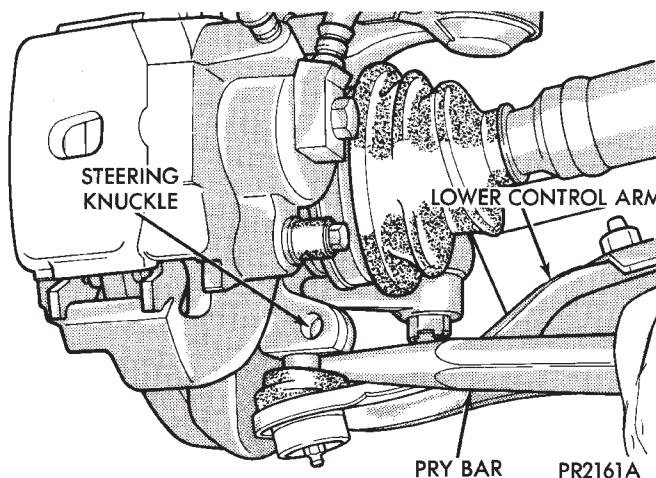

Fig. 8 Separate Ball Joint from Knuckle
- (3) Separate ball joint stud from steering knuckle by prying against knuckle leg and control arm (Fig. 8).
CAUTION: Do not damage ball joint or C/V joint boots (Fig. 8).